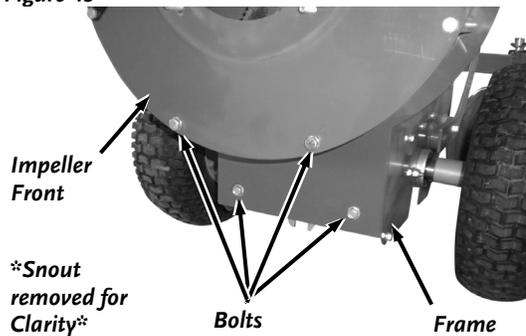

Figure 44
4. Loosen the four Bolts that secure the Impeller Front to the Frame using a 1/2" wrench (**Figure 44**). Do not remove these Bolts.
19. Tighten the Bolts on the Impeller Front using a 1/2" Wrench (**Figure 44**).